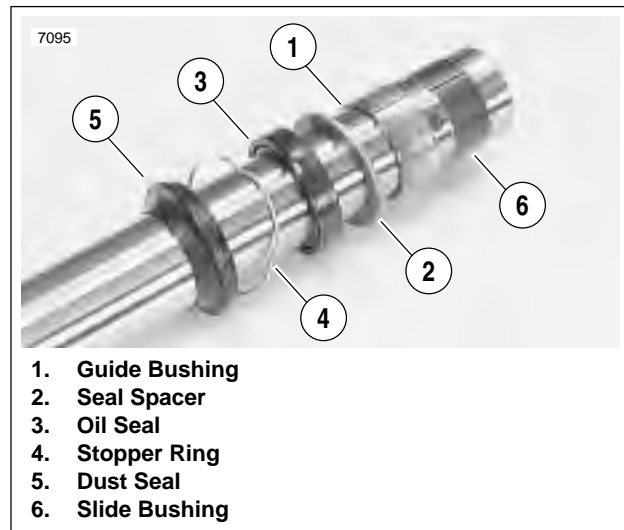

Figure 2-49. Slide Pipe Components
2. See Figure 2-49. Install a **new** dust seal (5) and stopper ring (4) onto the slide pipe.
3. Coat the sealing lips of the **new** oil seal (3) with fork oil or sealing grease and install onto the slide pipe with its marked side facing the dust seal (5). Remove the tape from the slide pipe end.
4. Install the seal spacer (2), the guide bushing (1) and the slide bushing (6) onto the slide pipe.
5. Coat the slide bushing (6) and the guide bushing (1) with fork oil.